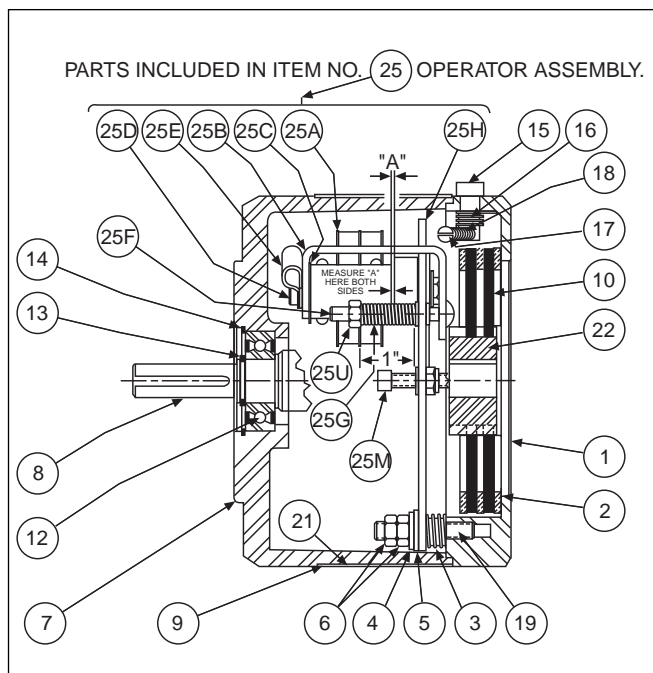

Figure 3.
Numbers in parentheses refer to parts illustrated in Figures 3 and 5.
Refer to Figure 3
- To adjust, remove cover (9) to expose adjusting screws (25M) and magnet air gap "A."
- Measure air gap "A" using 3/8" to 1/2" wide feeler gauge as shown in Figure 3.
Refer to Figures 3 and 5.
Refer to Figure 3.